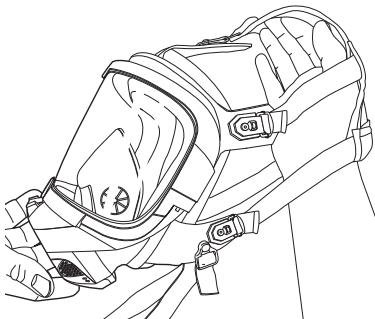

Fig. 27 Extending the straps of the head harness
- Fully extend the straps of the head harness in preparation for the next use (Fig. 27).